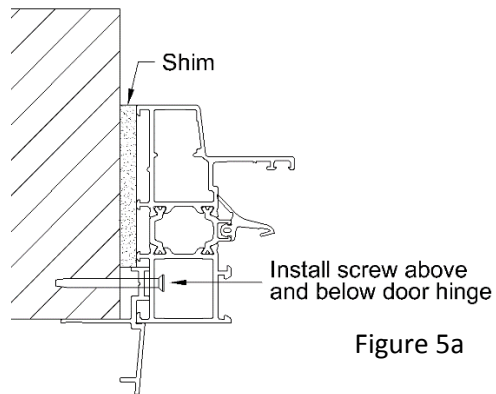

Figure 5a
9. Add #12 x 2 ½" stainless steel screws through the door frame 2" above and below the hinge points. Make sure there are shims at the screw points to avoid distortion of the frame. (Shown in figures 5a and 5b)